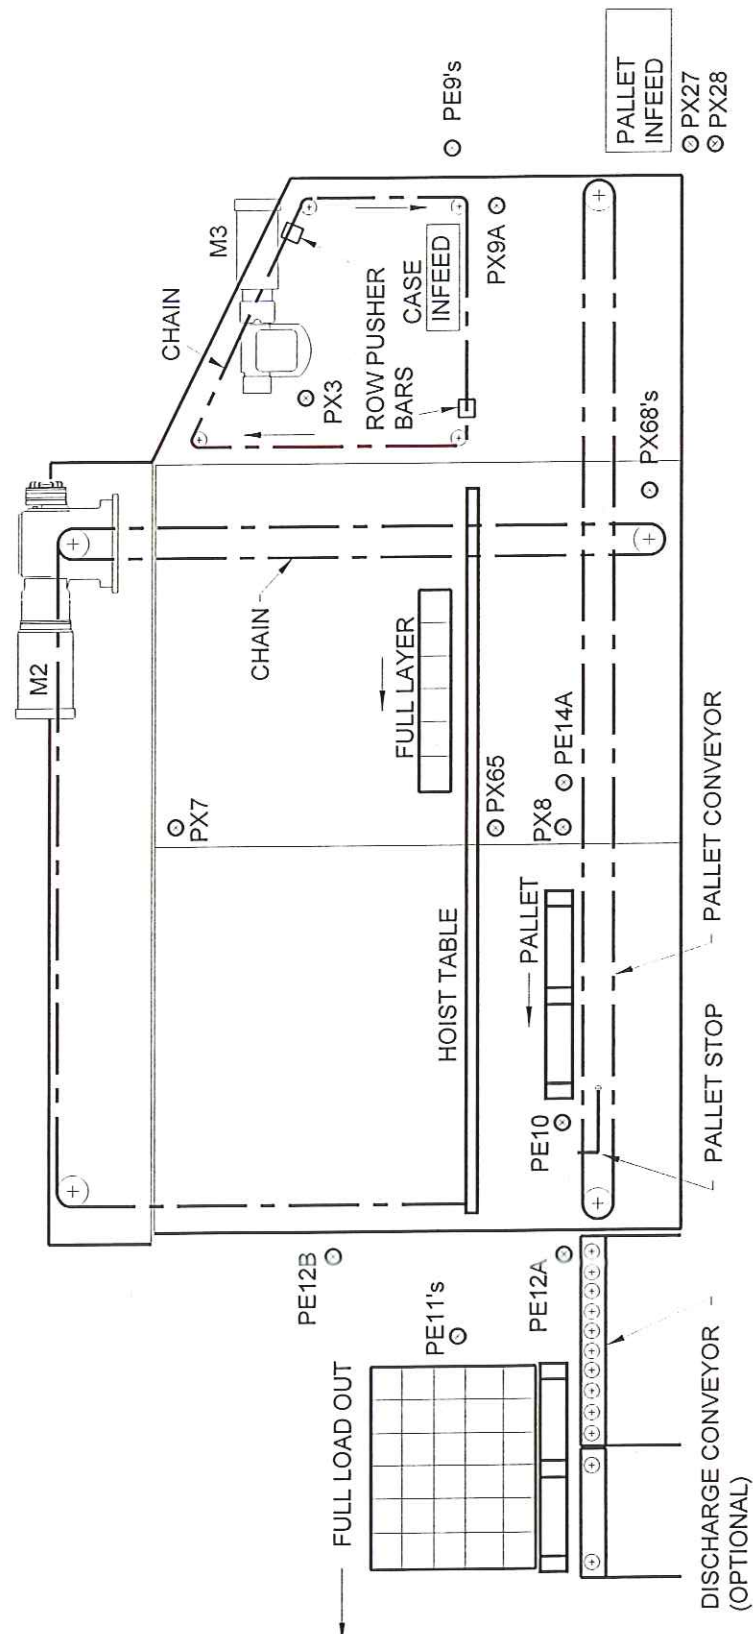

Figure 2-2: Side View of Machine Components
2. Each case is counted as it blocks and clears photo eye PE1 as it travels onto the case turning section. (See Figure 2-2.) The case count, together with the pattern selected, determines the orientation for each case.
1. After the apron has deposited the last layer onto the load conveyor, the hoist lowers until proximity switch PX65 is actuated, signaling the controller that the hoist is at its home position. (See Figure 2-2.)